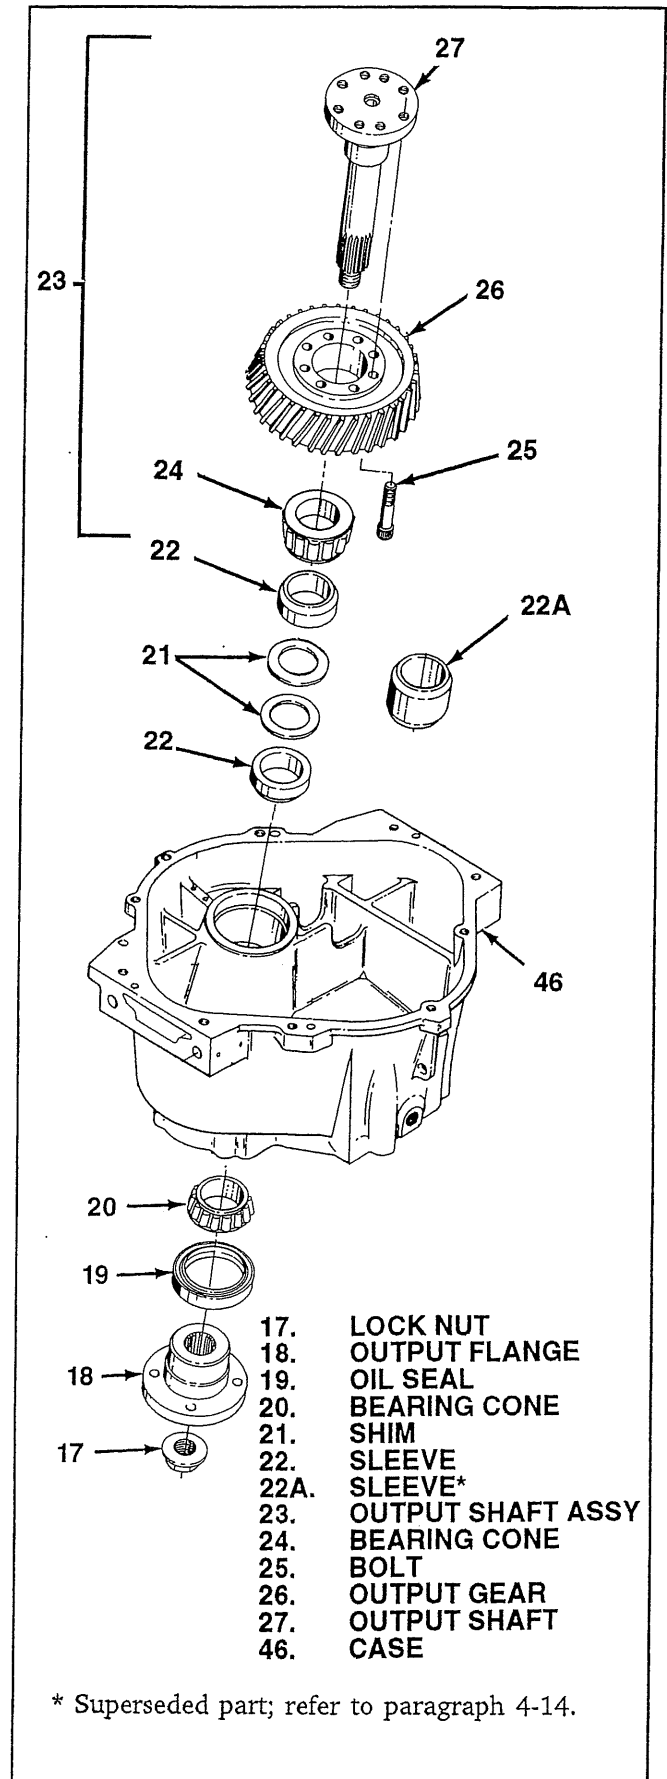
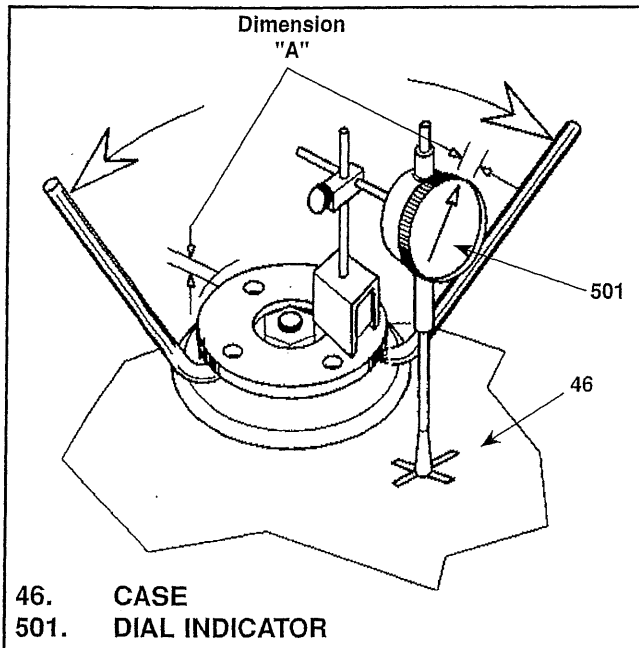

Figure 5-12. Output Shaft Assembly
Figure 5-13. Magnetic Base Dial Indicator
**5-18. OUTPUT SHAFT ASSEMBLY.** It is necessary to establish output shaft bearing preload before assembling the input and lay shaft components in the case. Assemble and temporarily install output shaft assembly as follows (see figure 5-12).
1. Place bearing cone (20) in cup and insert seal (19). Rotate and support case (46) so the open cavity is facing up.
2. Assemble output shaft (27) and output gear (26) using a suitable press. This is best done by using 4 guide pins equally spaced in place of bolts (25). Once in place remove the guide pins and apply Loctite 271® (red) to the threads of each of the eight bolts (25). Install bolts and torque to 18-24 lb-ft (24-33 Nm).
3. Using suitable press and drift T-5004, press bearing cone (24) onto output shaft (27) to bottom on shaft shoulder.
4. To determine proper thickness of shim(s) (21) required proceed as follows:
a. Assemble one sleeve (22) on output shaft (27) with the small end facing bearing (24). Place shims totaling 0.050 (1.27mm) inch on shaft followed by a second sleeve (22). Assemble the second sleeve so the large end of both sleeves face each other with the shims between.
**NOTE: If a single sleeve (22A) was originally used it should be discarded and replaced with two sleeves (22) described in step (a) above. Also, do not use the smaller shims used with sleeve (22A).**
b. Insert output shaft assembly (23) into case (46) being careful not to drop the two sleeves (22) and shims (21) from shaft. Once inserted the seal will temporarily hold the sleeves and shims in place.
c. Install flange (18), and hold with coupling wrench T-5005. Tighten flange nut (17) to 50 ft-lbs (68 Nm) torque. Rotate the case as assembled so the flange is on the top.
d. Rotate the flange 3 or 4 complete revolutions to insure the output shaft assembly (23) is resting squarely in bearing cup (45).
e. Mount a dial indicator as shown in figure 5-13.